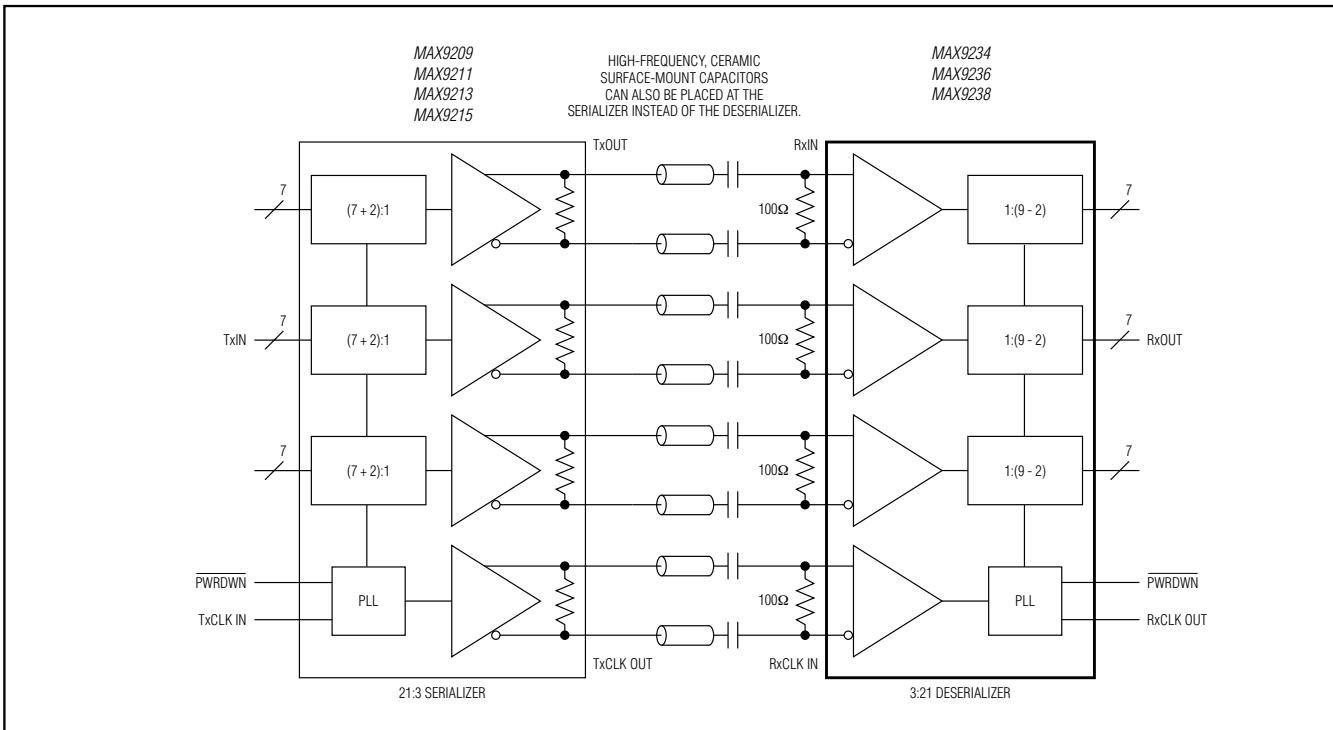
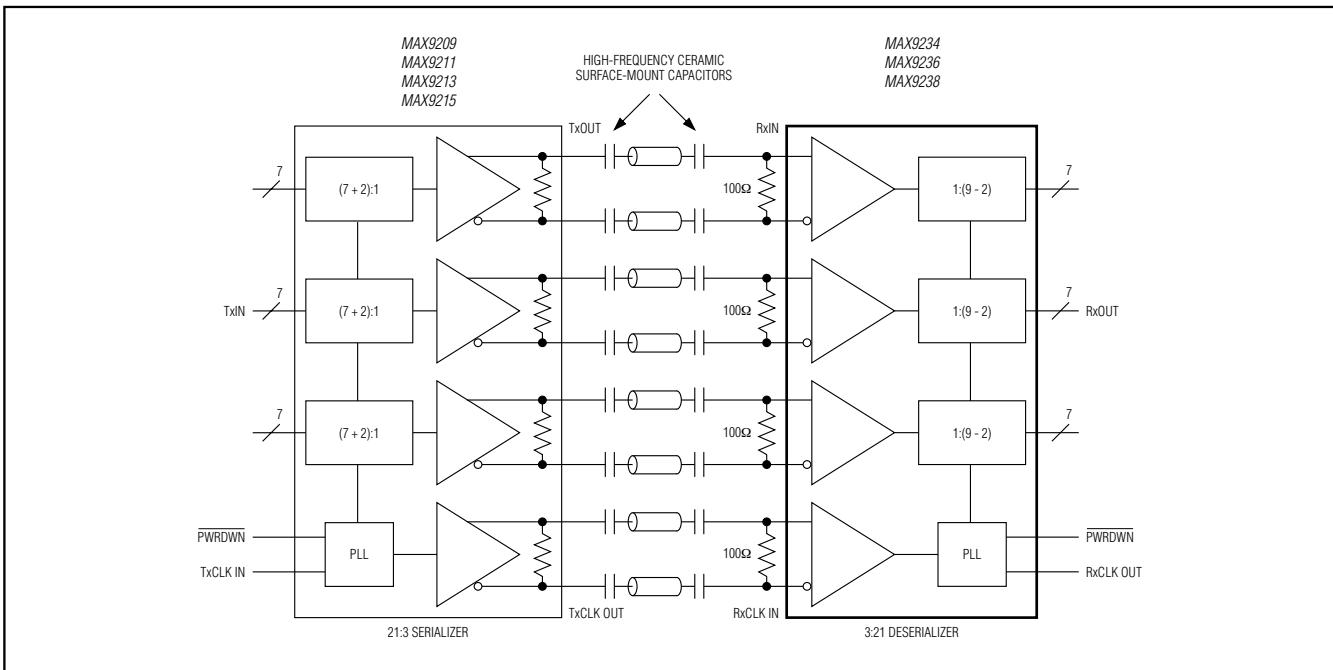

Figure 10. Two Capacitors per Link, AC-Coupled
Figure 11. Four Capacitors per Link, AC-Coupled
The RC network for an AC-coupled link consists of the LVDS receiver termination resistor ( $R_T$ ), the LVDS driver output resistor ( $R_O$ ), and the series AC-coupling capacitors (C). The RC time constant for two equal-value series capacitors is  $(C \times (R_T + R_O)) / 2$  (Figure 10). The RC time constant for four equal-value series capacitors is  $(C \times (R_T + R_O)) / 4$  (Figure 11).
Equation 1 is for two series capacitors (Figure 10). The bit time ( $t_B$ ) is the period of the parallel clock divided by 9. The DSV is 10. See equation 3 for four series capacitors (Figure 11).
The transition time in a real system depends on the frequency response of the cable driven by the serializer. The capacitor value decreases for a higher frequency parallel clock and for higher levels of droop and jitter. Use high-frequency, surface-mount ceramic capacitors. Equation 1 altered for four series capacitors (Figure 11) is: